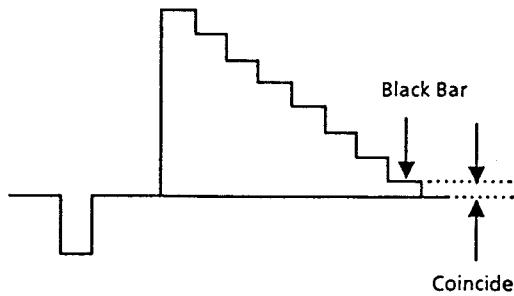

Fig. 4-12
- Adjust VR47 so that the black bar is just touching to the blanking level. (Fig. 4-12)